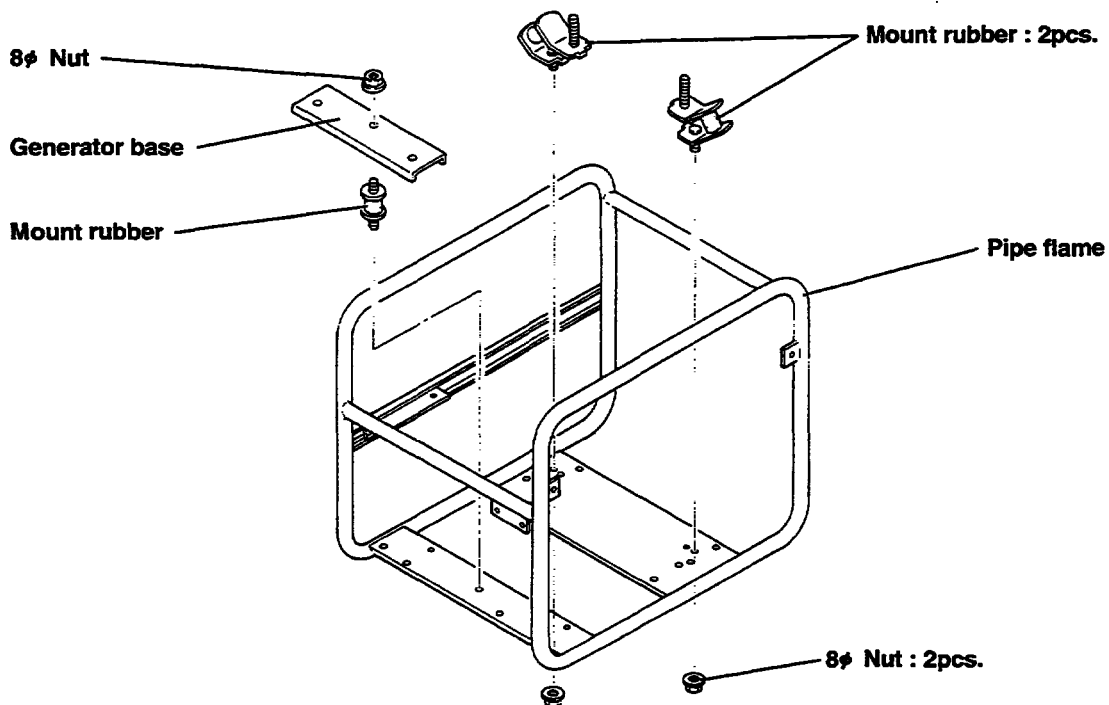

Fig. 10-34
- (1) Attach two mount rubbers to the engine base of the frame. Tighten the nuts from the bottom side of the frame. (See Fig. 10-34.)
- (3) Attach the alternator mount rubber to the frame. (See Fig. 10-34.)